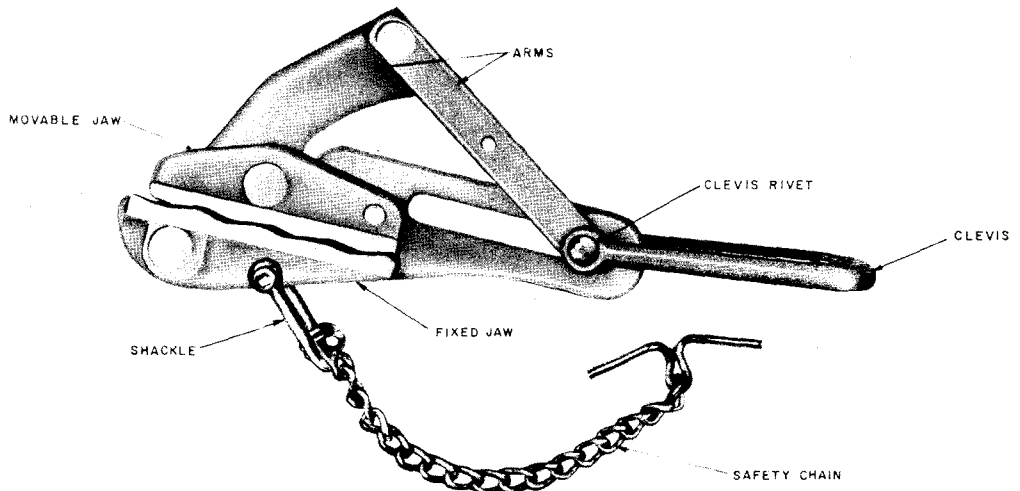

Fig. 3—B Strand Puller
2.06 The B strand puller (Fig. 3) weighs approximately 6 pounds. It consists essentially of a forged steel tool having two parallel, semicircular grooved, serpentine jaws between which the jacketed strand of self-supporting cable is gripped. Each puller is equipped with a single shackle which is mounted on the fixed jaw. A safety chain is permanently attached to the shackle and is equipped with a latch at the free end. The puller may be prevented from falling, should it become disengaged, by passing the chain around the self-supporting cable and attaching the chain latch to the shackle.